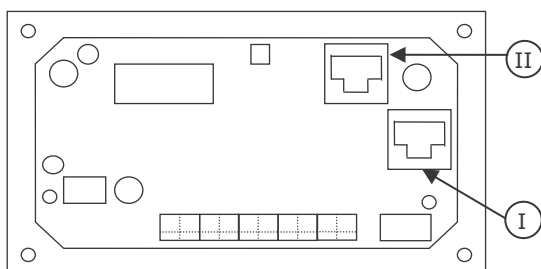

Figure 2: Backside MICC panel
8. Run a 6 pole modular communication cable (RJ12, cross wired) and connect the RJ12 connector to the socket on the right-hand side (see figure 2: connector I) at the backside of the Masterlink MICC.
9. Run another 6 pole modular communication cable (RJ12, cross wired) and connect the RJ12 connector to the socket which is marked with "Inv" (see figure 2: connector II) at the back of the Masterlink MICC.